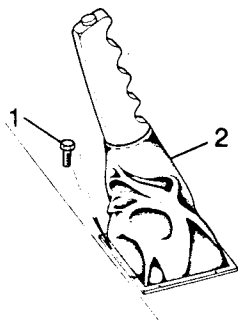
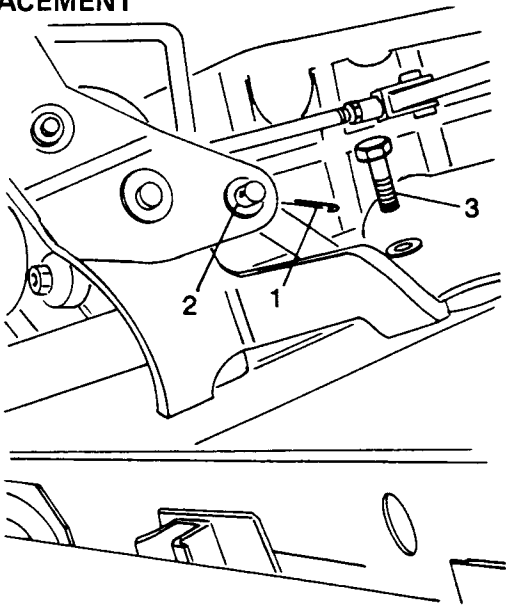

Fig K2.2
Fig K2.3
- (2) Refer to Fig K2.2. Remove the eight screws (1) retaining the leather dust cover (2) on the handbrake lever and remove the cover.
- (3) Refer to Fig K2.3. Disconnect the cable from the handbrake lever by removing the split pin (1) and clevis pin (2).
- (4) Remove the two (3) nuts and bolts holding the handbrake lever mounting to the seat base and remove the handbrake lever.
- (2) Fig K2.3 still applies. Replace the handbrake lever and secure the lever mounting to the seat base with the two bolts and nuts.
- (3) Connect the cable to the handbrake lever with the clevis pin and a new split pin.
(4) Adjust the cable to give two clicks on the ratchet when applying the handbrake.
(5) Fig K2.2 still applies. Replace the leather dust cover and the eight retaining screws.
(6) Replace the lid panel and the seat cushion.